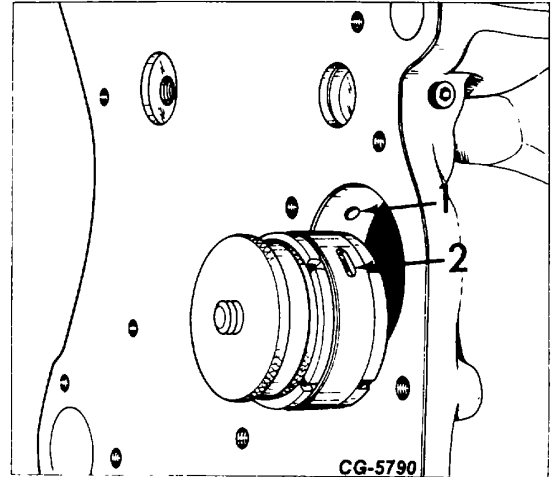

Figure 3. - Camshaft Lubrication
The camshaft bearings are pressure-lubricated and have holes drilled in them. When the bushings (2, Fig. 3) are installed, the oil holes must align with the ones drilled in the crankcase (1). The oil hole in the rear bearing permits lubricating oil to travel to the valve lever mechanism.